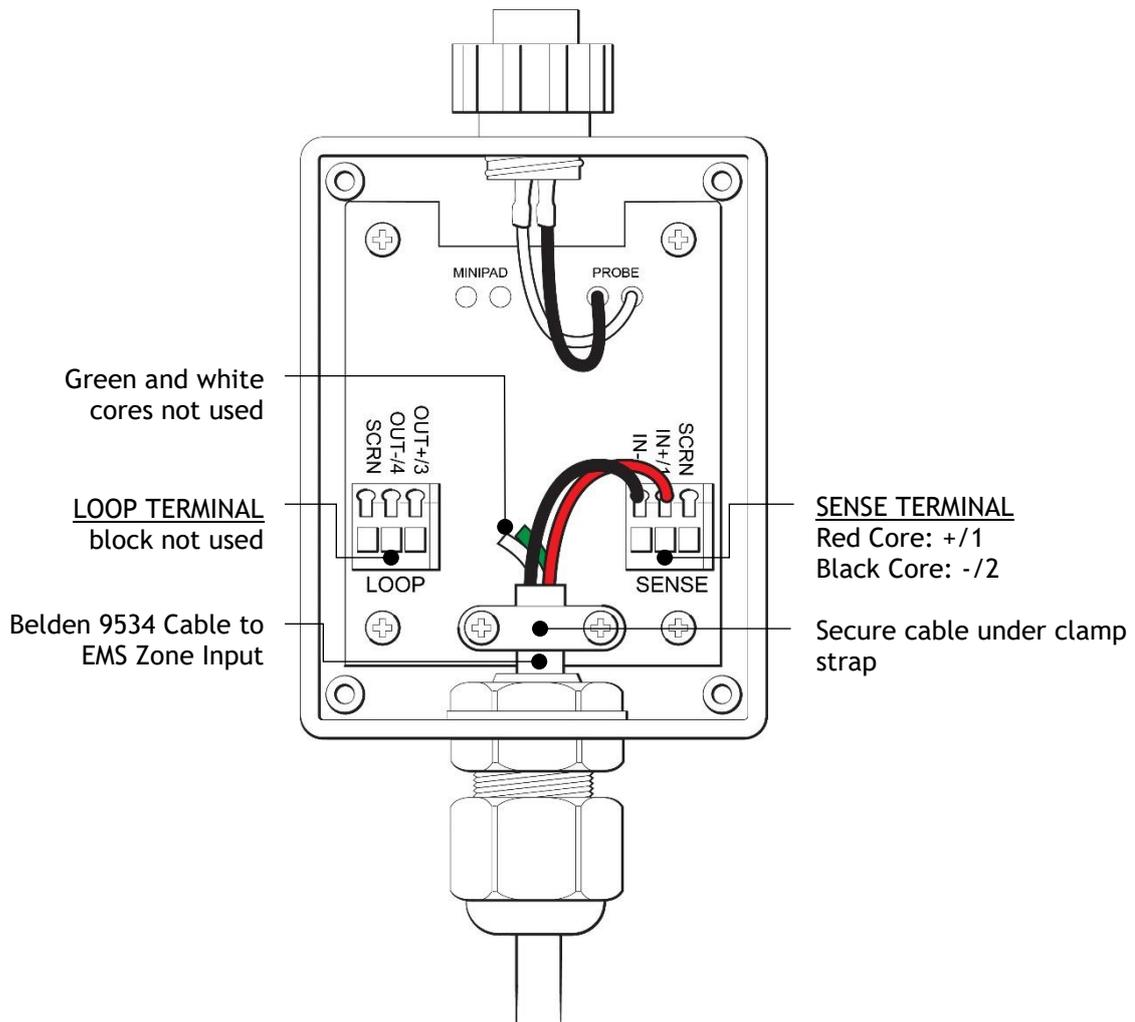

Figure 8: Sensor Cable using LC10/LCB100 and Start of Line
3. Cable the opposite end of the **leader cable** in to the **Start of Line (SOL; Figure 8)**.